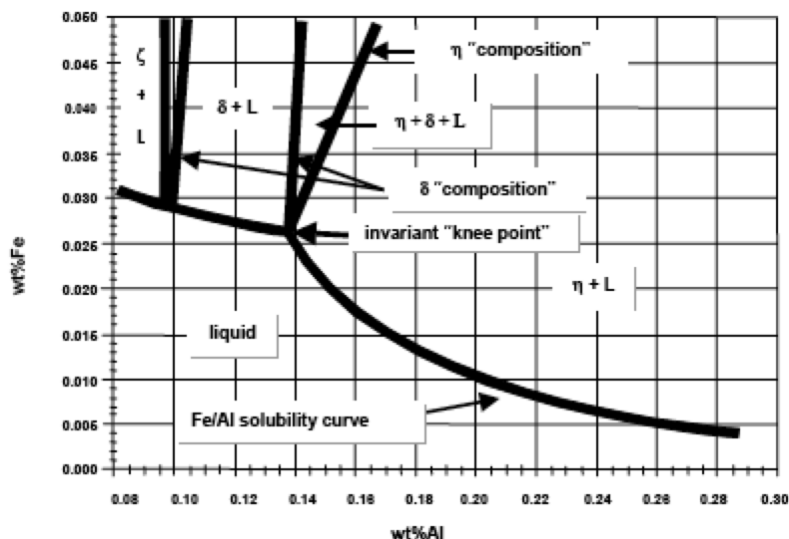
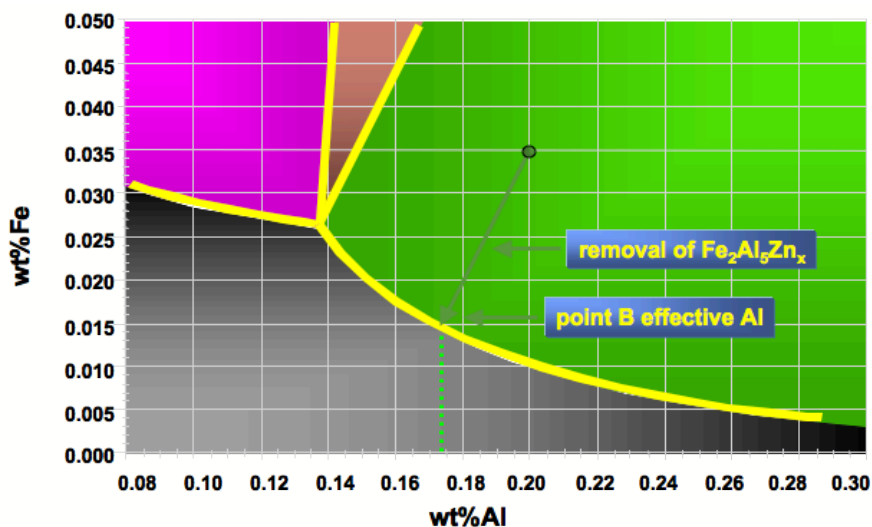

Figure 1 – Phase diagram of the Zn-rich corner of the Zn-Fe-Al system at 860°F [460°C] as per reference 1
Figure 2 – Determining Al_{EFF} using the Zn-Fe-Al phase diagram (Courtesy of Xstrata)
- When aluminum is at the correct level, the zinc reaction with the steel instantly forms a very thin interfacial, ternary alloy layer (see Fig 2 in Note 2.4) with a composition of 45% Al, 35% Fe, and ~20% Zn ($\text{Fe}_2\text{Al}_{5-X}\text{Zn}_X$). The extent of this ternary alloy reaction (and the amount of zinc incorporated into it) is very sensitive to the amount of Al in the bath, to the immersion time, and to the bath and strip temperatures.
- Zinc with no Al at 860°F [460°C] can hold in excess of 0.035% Fe in solution, whereas with Al at 0.20% it can only hold about 0.010% Fe in solution (refer to Figure 1).
- When producing galvanize ($\eta + L$ region of Fig 1), determining Al_{EFF} consists of plotting the bath analysis results for Al and Fe on a phase diagram that is correct for the bath temperature at the time of sampling. A tie line is then drawn parallel to the intermetallic composition line, as shown in Fig 2. In this example, Al_{EFF} is the intersection of the tie line drawn from the 0.20% Al/0.035% Fe point, parallel to the η “composition” line (see Fig 1), to where it intersects the Fe/Al solubility line at 0.175% wt% Al. Again, this is only correct for a given temperature (in this case 860°F [460°C]) because the solubility curves shift up or down with the bath temperature.